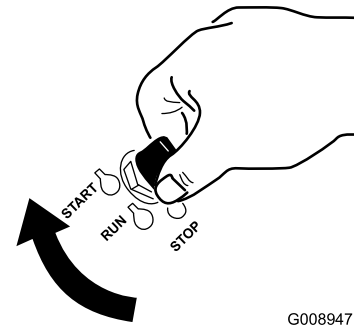

Figure 16
1. Turn the ignition key to the Start position (Figure 16). When the engine starts, release the key.